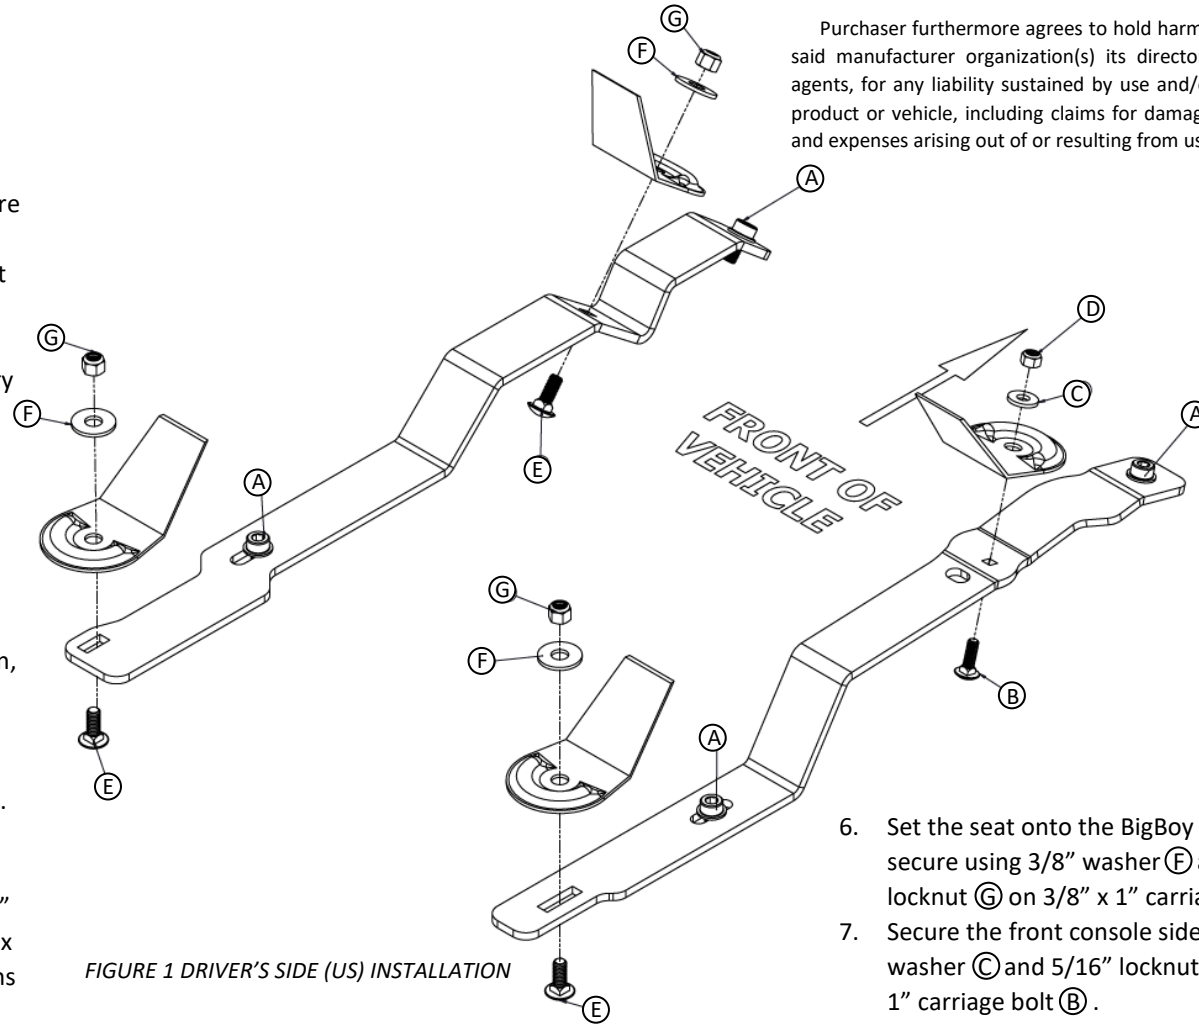

FIGURE 1 DRIVER'S SIDE (US) INSTALLATION
2. Position the seat in the full forward position, and then remove the rear seat bolts (A) and save for later.
3. Move the seat to the full rearward position, and then remove the front seat bolts (A) and save for later.
5. Install the BigBoy seat brackets using the four bolts saved during removal (A). For ease of installation, be sure to slide all 3/8" x 1" carriage bolts (E) and especially 5/16" x 1" black carriage bolt (B) into their positions under the bracket as shown in Figure 1.